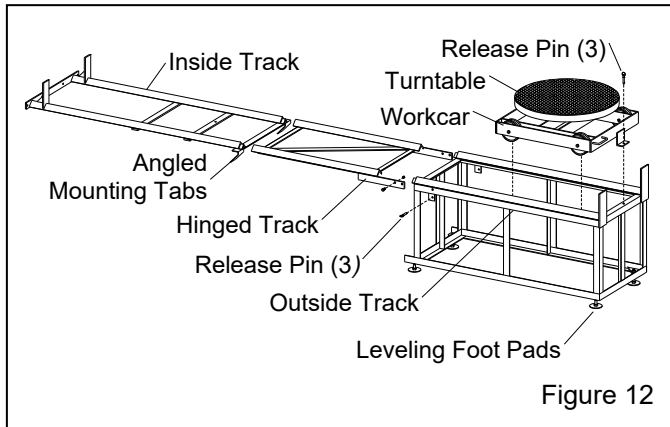

Figure 12
**3.5.1** These instructions cover field installation of the 2000 lb. capacity track and work cart with turntable. If the track was ordered with the cabinet, it is partially assembled at the factory. Disregard the instructions that do not apply. Refer to Figure 12 for arrangement of the major components.